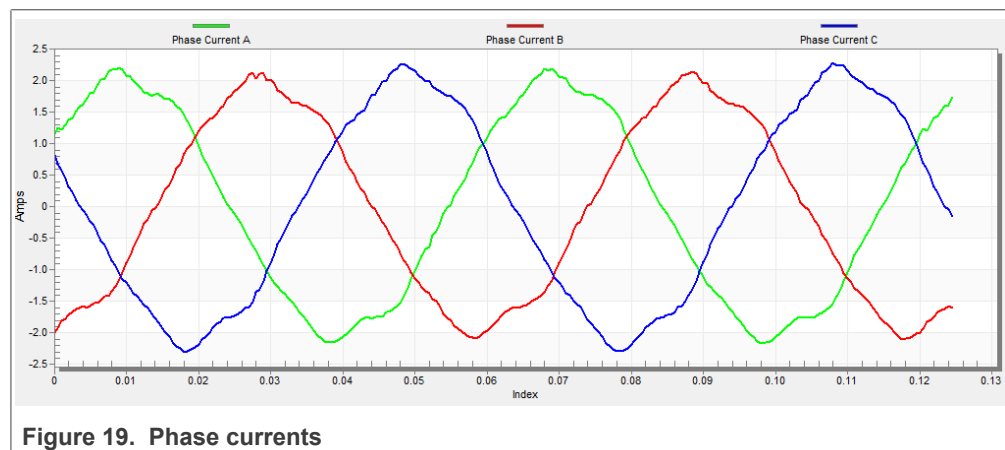

Figure 19. Phase currents
5. The optimal ratio for the V/Hz profile can be found by changing the V/Hz factor directly using the "M1 V/Hz factor" variable. The shape of the motor currents should be close to a sinusoidal shape (Figure 19). Use the following equation for calculation V/Hz factor: